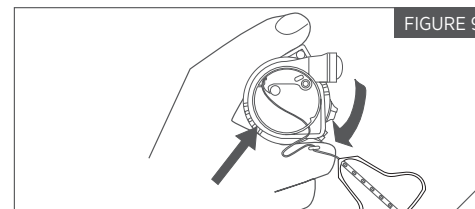

FIGURE 9
9. While pressing FIRMLY onto the inflator body, turn the BLACK locking ring clockwise into the locked position (Fig. 9). Pull on the cap to make sure it has locked onto the inflator body.